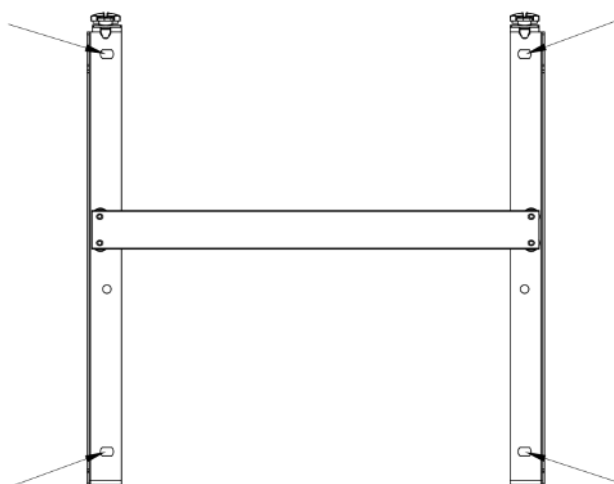

Fig. 2
2. Don't use in bathroom and don't cover. Fig 2
3. Take out the H shape bracket from the back of the product. Put it on the wall and mark the 4 holes' position on the wall as Fig 2. Drill the holes(Φ10) on the wall.